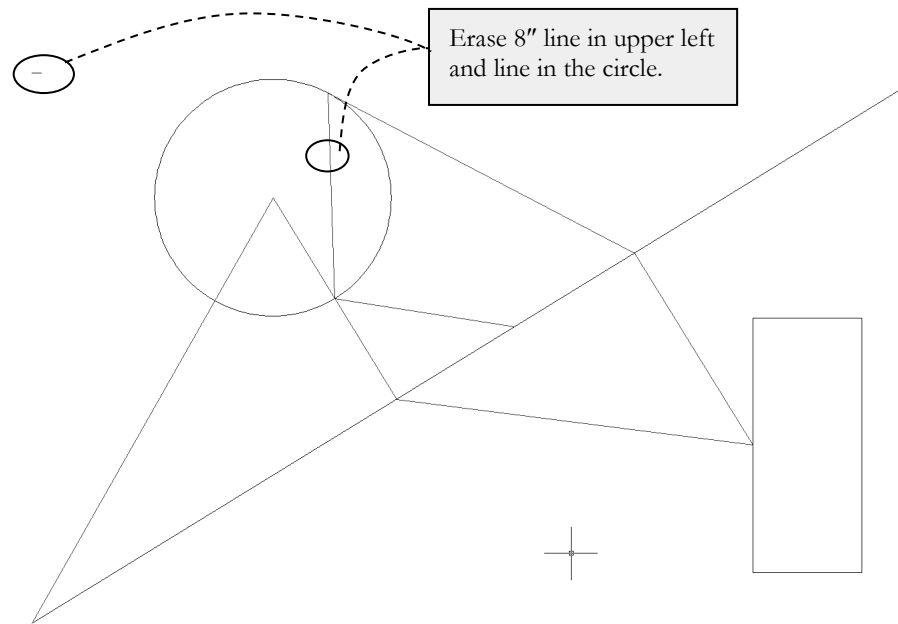

FIGURE 3-3.2 Lines to be erased
3. While holding the **Ctrl** key, select the lines identified in **Figure 3-3.2**.
TIP: See the section below *Figure 3-3.2 on Selecting Entities*.